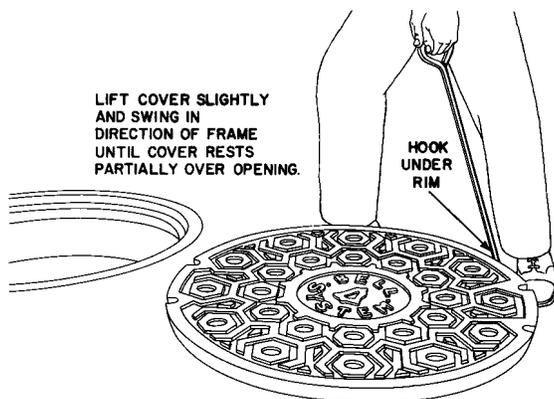

Fig. 19—Sliding Cover to Manhole Frame
- (1) Stand slightly over the cover while facing approximately at right angles to the line on which the cover is to be moved and with feet spread well apart.
- (2) Place the point of the manhole hook under the rim of the cover, lift slightly and swing the cover toward the manhole while the cover pivots on its opposite edge (Fig. 19).